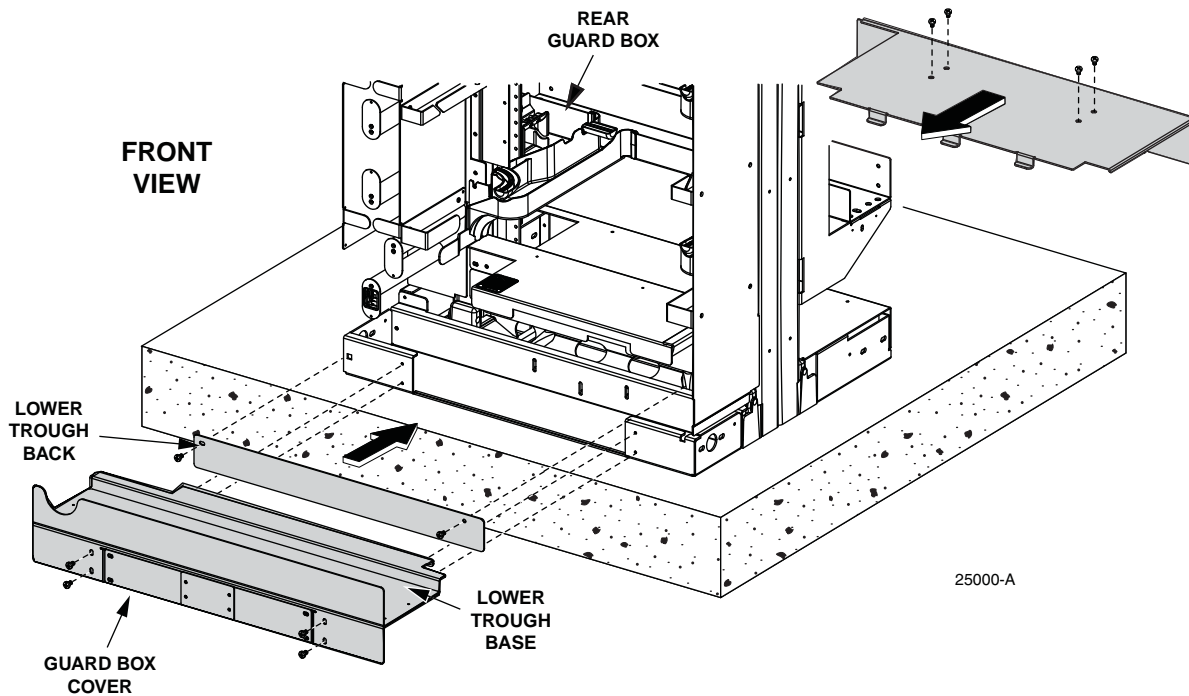

Figure 15. Re-installing Front and Rear Troughs
12. Re-install the front and rear troughs, as shown in Figure 15.
1. If the front trough covers and guard box, and the rear guard box, are present on the frame, remove them. Figure 15 above shows the same components, but being installed.
10. Re-install the front and rear troughs, as shown in Figure 15 on Page 16.